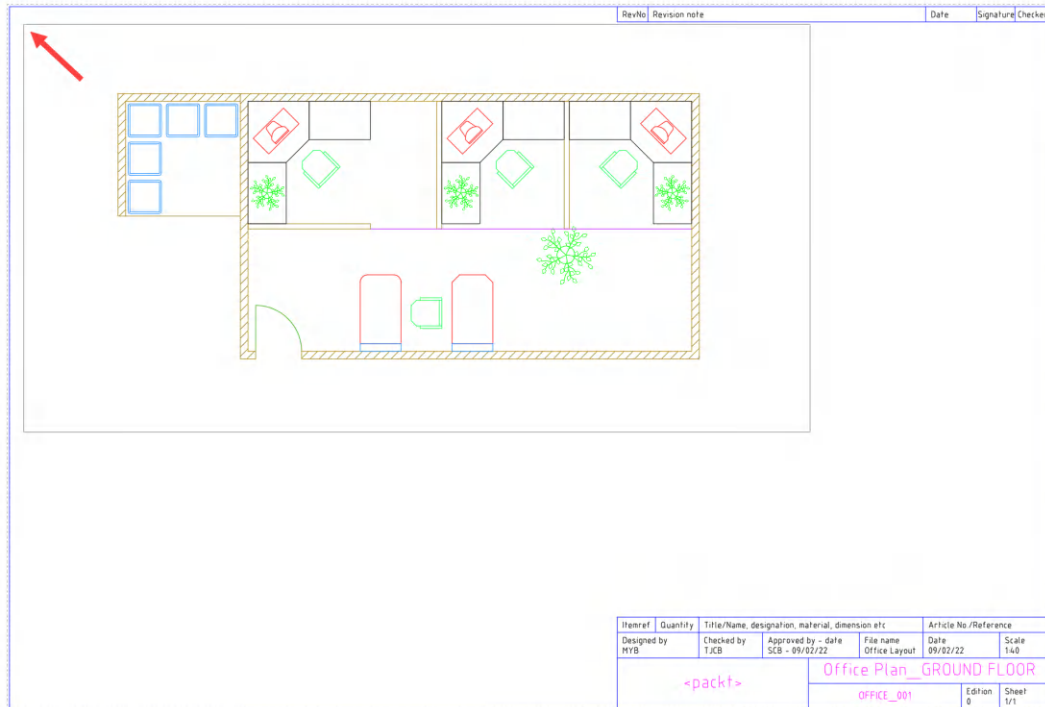

Figure 8.8: The viewport relocated to its new position
5. Right-click to bring up the shortcut menu. Select **Move**, and then click on the top left corner of the selected viewport (it's an **Endpoint** object snap). Move the viewport upwards and to the left until it is close to the drawing title block, and then click again to place the viewport in the new position. It should look like it does in *Figure 8.8*: